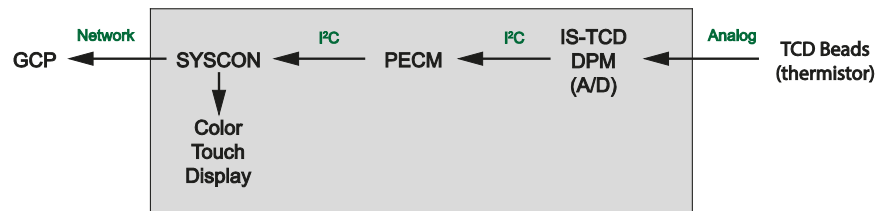

Figure 2-25 Thermal Conductivity Detector Signal Path
Output signals from Thermal Conductivity Detector (TCD) in the Modular Oven are input to the associated Detector Personality Module (DPM). The DPM is mounted inside the Electronics Enclosure (EC) on the floor of the compartment. The DPM digitizes the incoming analog signal and then passes the data to the SYSCON via an I²C port. The resulting data is then processed by the Embedded SNE software. Results can then be viewed on the maintenance panel or the workstation. See Figure 2-25.
I²C Bus Connection: The white connector on the reverse side of the DPM connects to the I²C Bus on the PECM as shown in Figure 2-25.